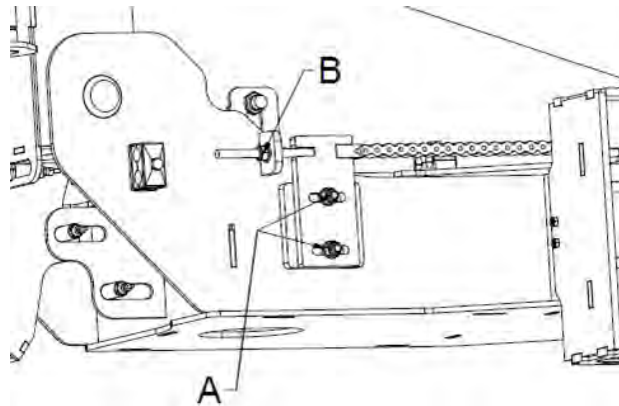

Figure 53 — Adjusting the Shock Absorber Slide Chain Tension
1. Loosen the bolts on the side of the loading arm (A, Figure 53).
2. Tighten the tension bolt (B, Figure 53) until the correct tension is reached.
3. Tighten the bolts (A, Figure 53).